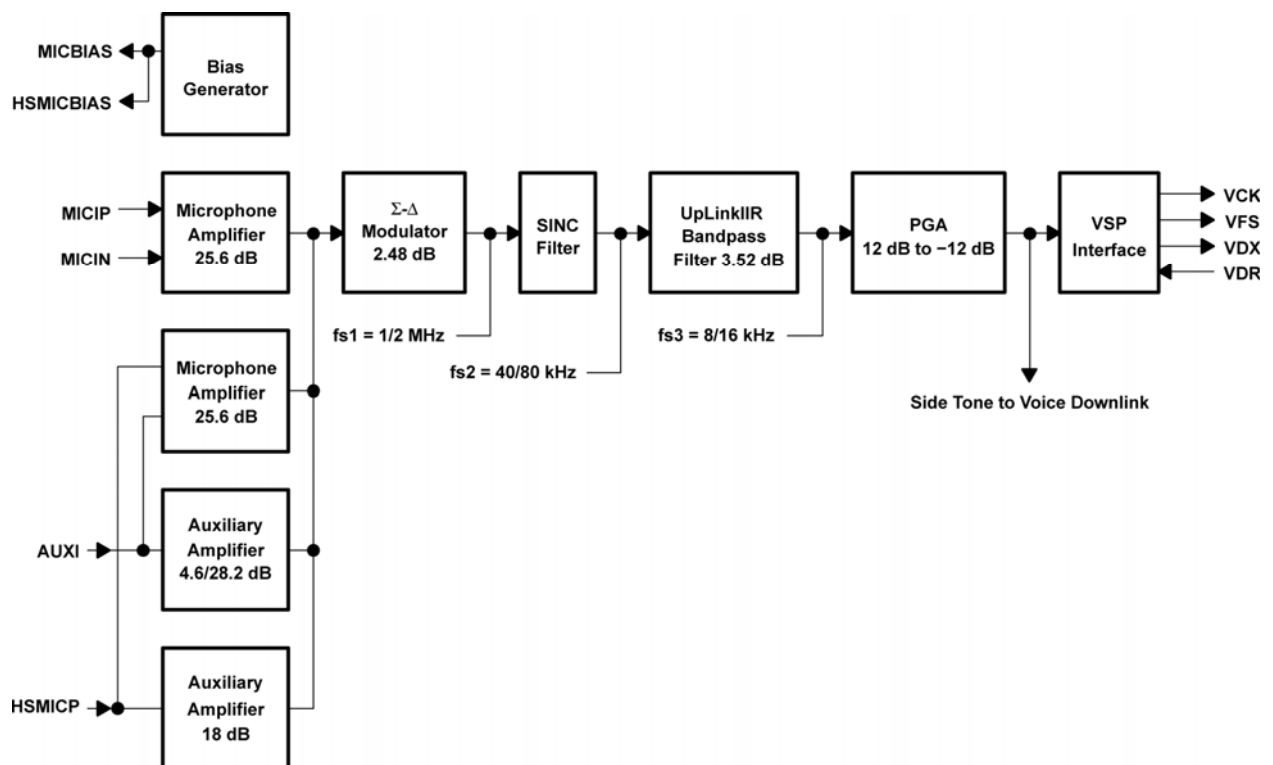

Figure 7: Voice Uplink Paths
- Figure 7: Voice Uplink Paths 12